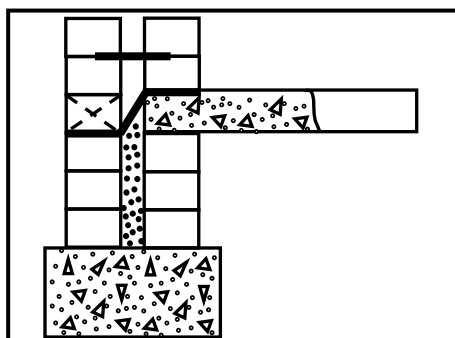

FIGURE 5.7
- 5.7 FIGURE 5.7 below shows the bottom part of a cavity wall with a wall tie and a foundation. Study the drawing and answer the questions that follow.